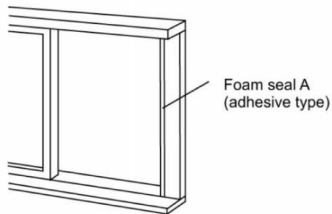

Fig.10
1. Cut the foam seal(adhesive type) to the proper length and attach it to the window frame, Fig.10.